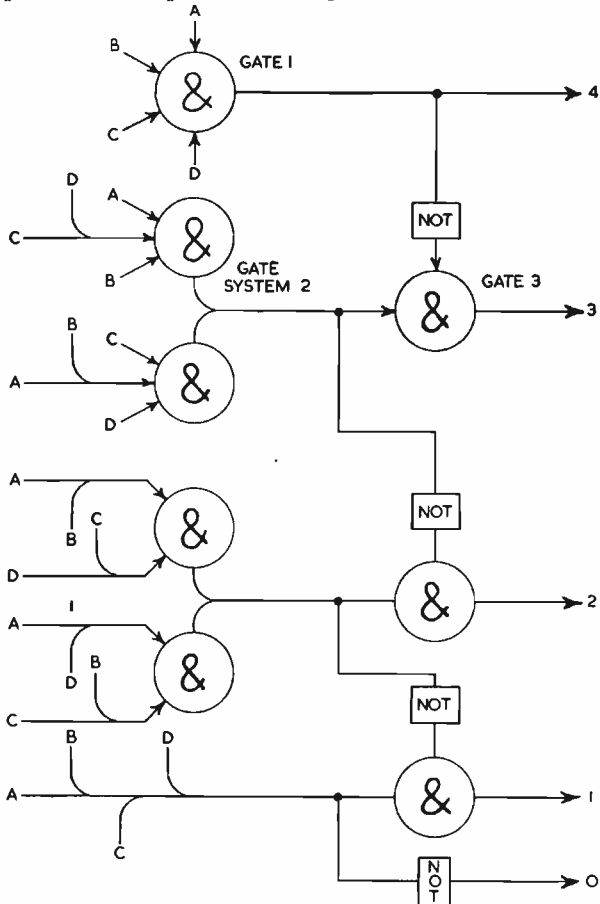

Fig. 6. Column adder
- (1) if  $G$  is present and  $A$  or  $B$  is present.
- or (2) if  $G$  is not present and  $C, D,$  or  $E$  is present.
**Example 2. Fig. 6.**
One of the first three AND gates is opened by  $K = 1,$  or 2 or 3, which are fed from the control desk. The signals 0, 1, 2, 3, are supplied by the circuit in Fig. 6. It will be seen that one of these gates will operate if the input to it is  $K$  or less than  $K$  i.e. transition has occurred. This is examined at time  $X$  to set storage element  $TF1$ . A similar but more complex circuit is used for the safety examination.